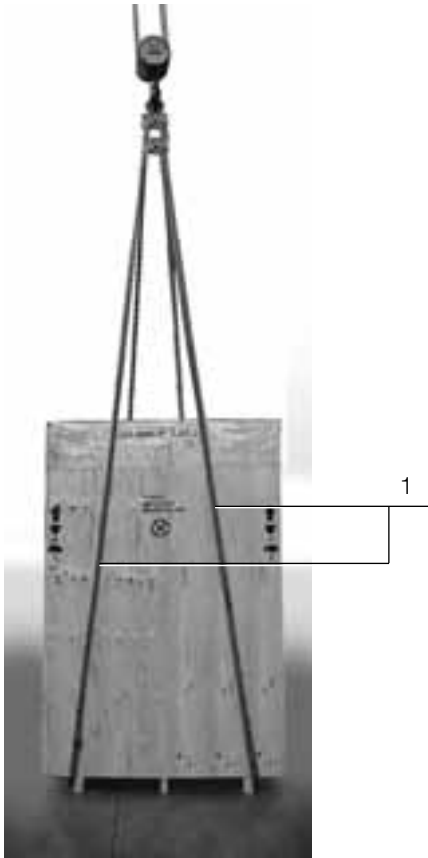

Fig. 2
Lifting by means of a crane must be carried out using the circular slings (1) (fig. 2).